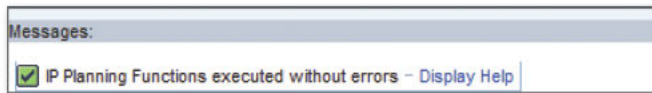

Figure 4 Message Box Suppressing all Unwanted Warning Messages
4. Now execute the planning function. Messages will be suppressed, and the result should appear as shown in Figure 4.